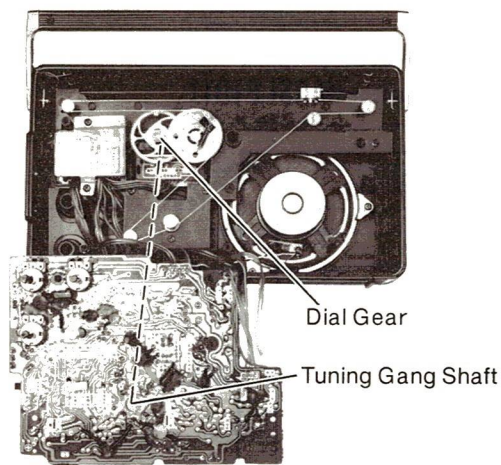

Fig. 6
- ※ 2. Insert the tuning gang shaft in the hole of dial gear as shown in fig. 6.